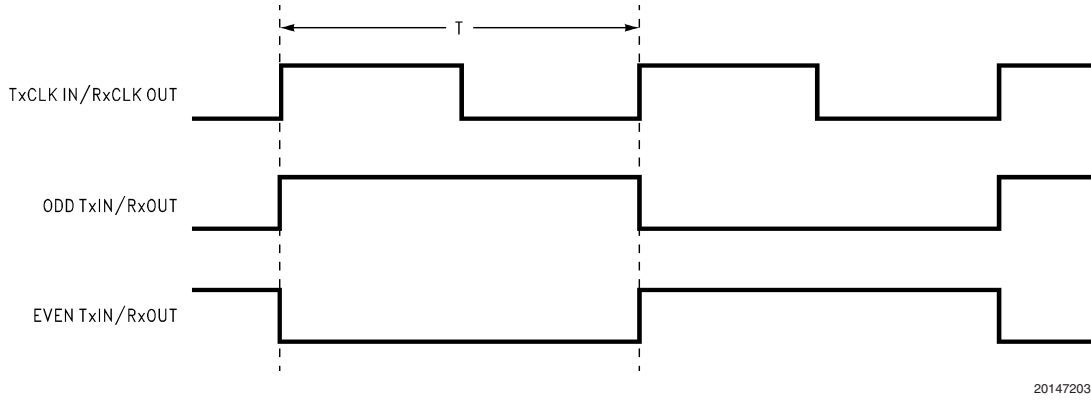

FIGURE 2. "Worst Case" Test Pattern
- Note 9:** Figures 2, 4, 7 show a falling edge data strobe (TCLK IN).